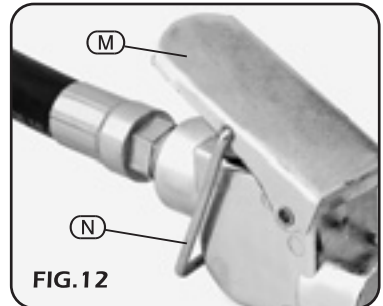

FIG.12
6.2 RAISING AND LOWERING (Figs.12&13):